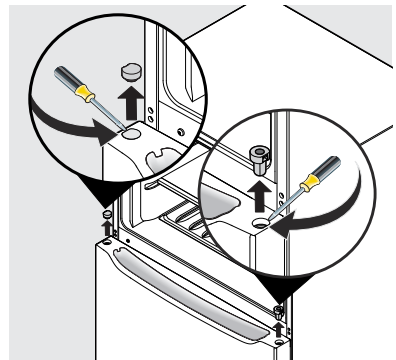

Figure 6
1. Pry out the center hinge bearing from the top of the refrigerator door with a straight screwdriver (see Figure 6).
2. Pry out the center hinge bearing plug from the opposite side of the refrigerator door with a straight screwdriver (see Figure 6).